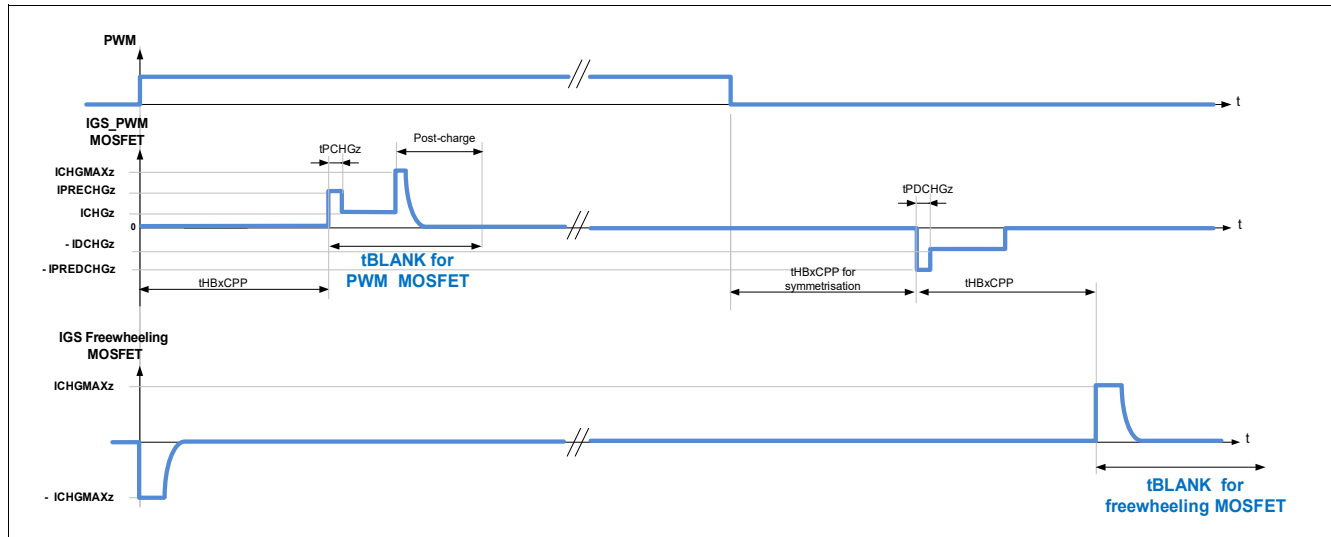

Figure 72 Blank time for half-bridges in PWM operation with AFW = 1
- the blank time of the PWM MOSFET starts at the expiration of the cross-current protection time of the PWM MOSFET. Refer to Figure 72.
- the blank time of the free-wheeling MOSFET starts after expiration of the cross-current protection time at turn-off of the PWM MOSFET. Refer to Figure 72.